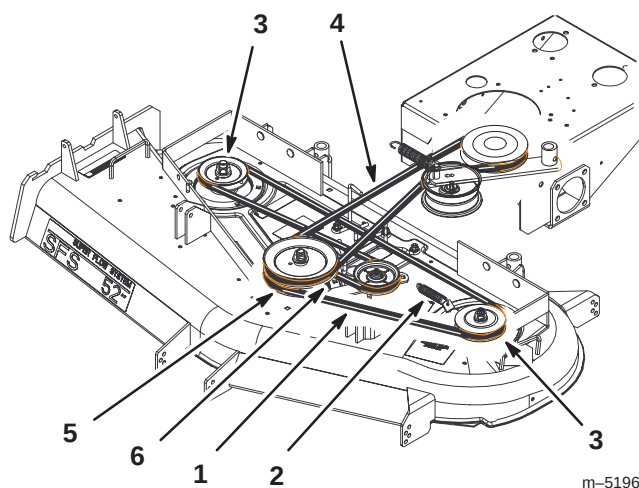

Figure 57
5. Disconnect the idler arm spring to relieve tension on the idler arm and idler pulley, then remove the worn deck belt (Fig. 57).
6. Install the new deck belt around the two outside spindle pulleys, the idler pulley, and in the lower groove of the center spindle pulley (Fig. 57).
7. Connect the idler arm spring (Fig. 57).
11. Adjust deck belt guide an 1/8 in. (3 mm) from belt (Fig. 57).